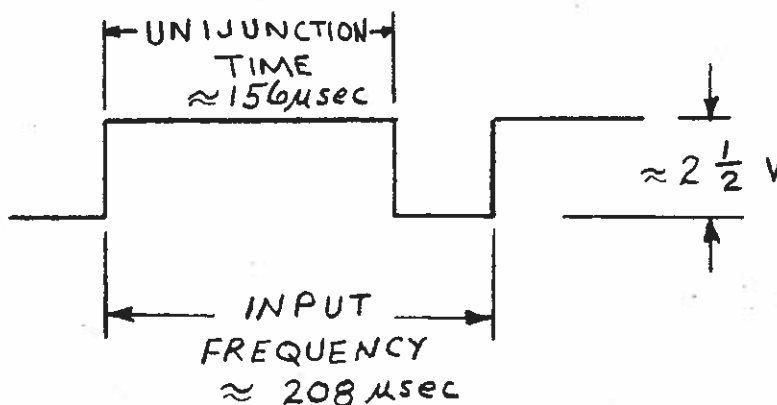

FIG. 6 WAVEFORM AT TP3
***NOTE:** When the input frequency = 4800 Hz, the output voltage will be -10.000 V, and the duty factor will be 75% as shown in Fig. 6.